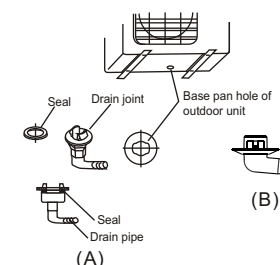

Fig.11
NOTE: The drain joint is slightly different according to the different outdoor unit. For the drain joint with the seal (Fig.11 (A)), first fit the seal onto the drain joint, then insert the drain joint into the base pan hole of outdoor unit, rotate 90° to securely assemble them. To install drain joint as shown in Fig.11 (B), insert the drain joint into the base pan hole of outdoor unit until it remains fixed with a clicking sound. Connecting the drain joint with an extension drain hose (Locally purchased), in case of the water draining off the outdoor unit during the heating mode.